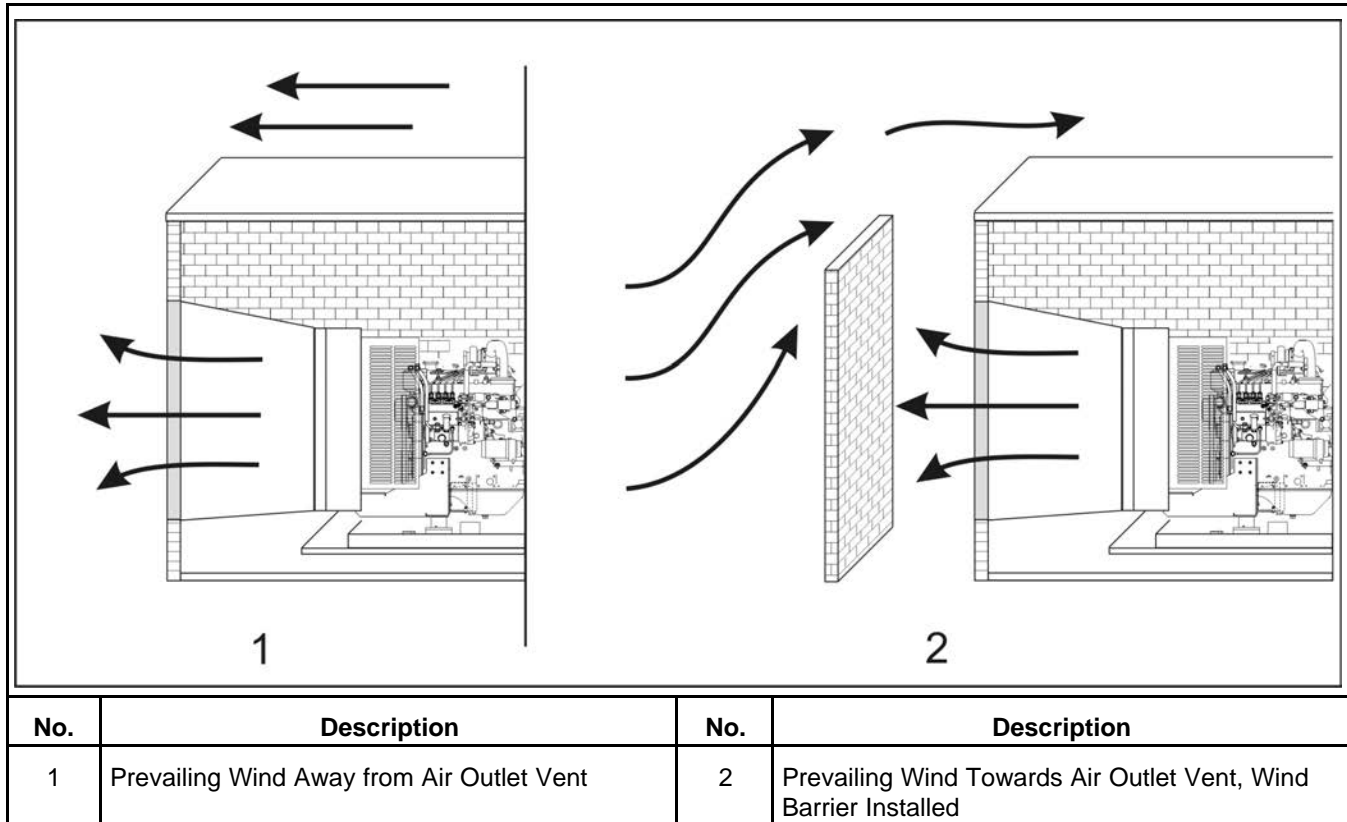

FIGURE 18. WIND BARRIER
3. Wind will restrict free airflow if it blows directly into the air outlet vent. Locate the outlet vent so the effects of wind are eliminated, or if the outlet vent cannot be located as mentioned, install a wind barrier. See Figure 18.